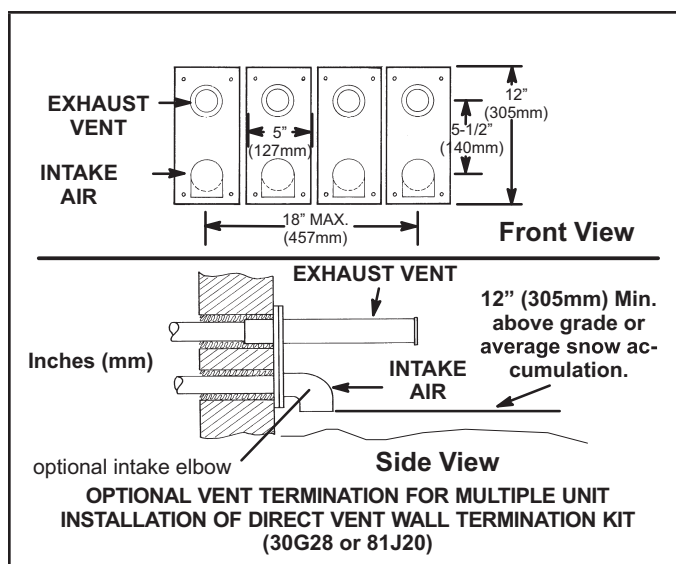

FIGURE 34
- 8 - Based on the recommendation of the manufacturer, a multiple-furnace installation may use a group of up to four terminations assembled together horizontally, as shown in FIGURE 34.